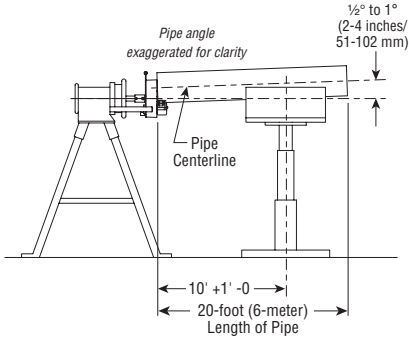

Figure 1 - Support of Pipe
- b. Place the pipe stand at a distance slightly beyond half the pipe length from the tool. Refer to Figure 1 above.
- d. Adjust the height of the pipe stand so that the pipe is approximately  $1/2^\circ$  to  $1^\circ$  ABOVE level. Refer to Figure 1 above. **NOTE:** The pipe must be inserted into the rolls while the height of the pipe stand is adjusted.
- Figure 1 shows the Victaulic Adjustable Pipe Stand (VAPS 112). The VAPS 112 is suitable for  $3/4$  - 12-inch sizes. The Victaulic Model VAPS 224 is suitable for 2 - 24-inch sizes. Refer to the "Accessories" section on page 26.